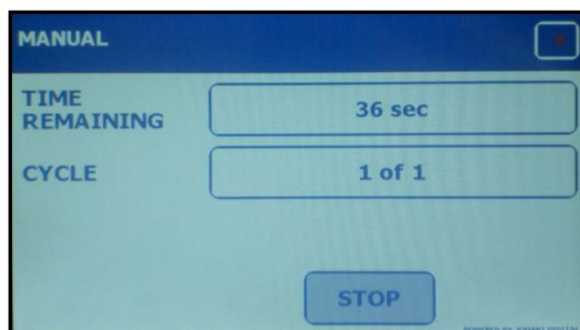
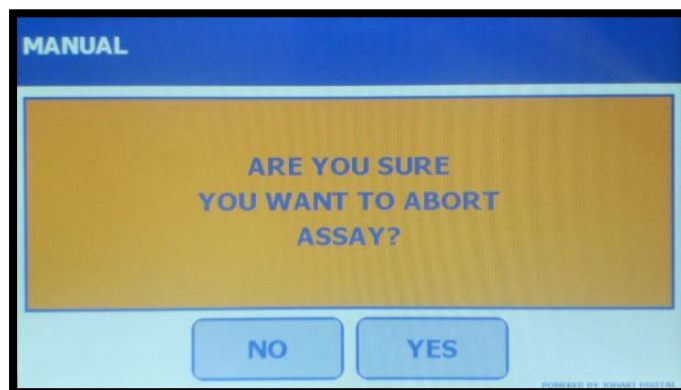

Figure V-11: FastPrep-24™ 5G Countdown Display during Manual Assay Run
Figure V-18: Assay Abort Screen
2. Press [YES] to initiate the assay run. The FP-24 5G will start the assay while displaying a countdown of the assay time remaining (Figure V-11).
1. Press the [STOP] button located at the bottom of the screen \(Figure V-11\). The FP-24 5G prompts “ARE YOU SURE YOU WANT TO ABORT ASSAY” \(Figure V-18\). Press the [YES] button to abort the assay, or press [NO] to return to the previous screen.